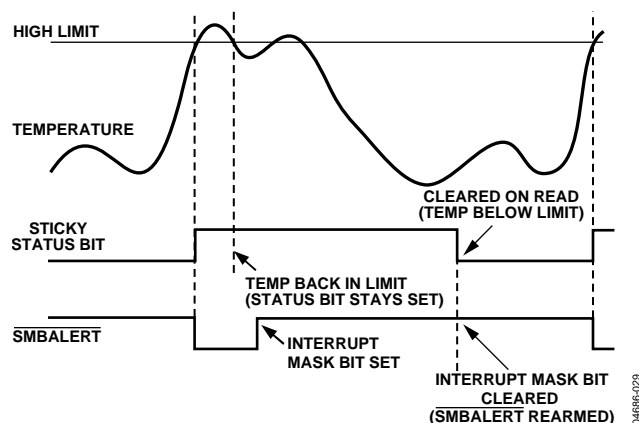

Figure 27. How Masking the Interrupt Source Affects $\overline{\text{SMBALERT}}$ Output
7. Periodically poll the status registers. If the interrupt status bit has cleared, reset the corresponding interrupt mask bit to 0. This causes the $\overline{\text{SMBALERT}}$ output and status bits to behave as shown in Figure 27.